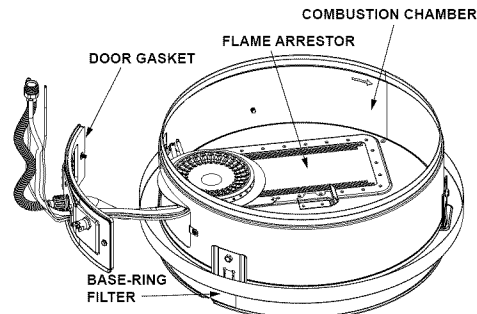

FIGURE 36.
1. At least annually, check the base-ring filter (Figure 36) for any dust or debris that may have accumulated on the filter screen. **NOTE:** If the water heater is located in an area that is subjected to lint and dirt, it may be necessary to check the base-ring filter more frequently.
2. Use a vacuum cleaner/shop vac to remove all loose debris in the combustion chamber (Figure 36). Use compressed air to clear any dust or debris that may have accumulated in the flame-arrestor.